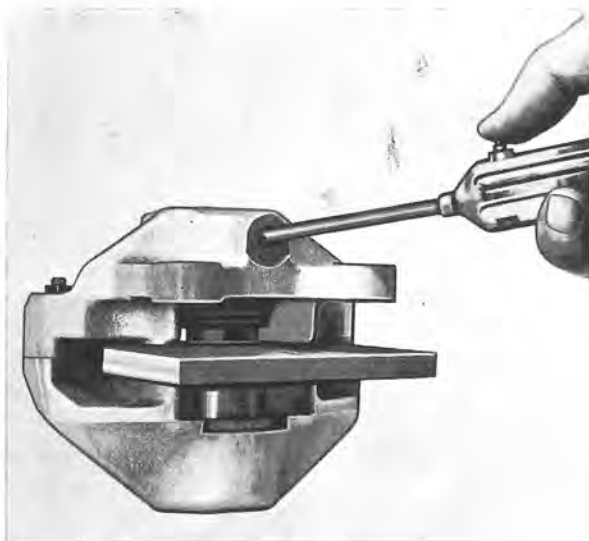

Fig. 5-27. Removing piston
2. Remove the retaining rings and the rubber dust covers. Place a wooden disc, see Fig. 5-3, between the pistons and press them out towards the disc with the help of an air line, see Fig. 5-27. The pistons can then be easily removed. Lever off the rubber covers.